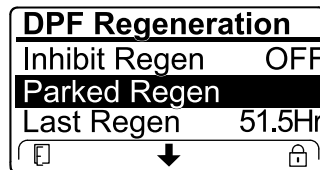

Figure 56
- If the engine computer requests a recovery regeneration or is processing a recovery regeneration and you scroll down to the PARKED REGEN option, parked regeneration locks and the lock icon (Figure 56) appears in the lower right corner of the InfoCenter.